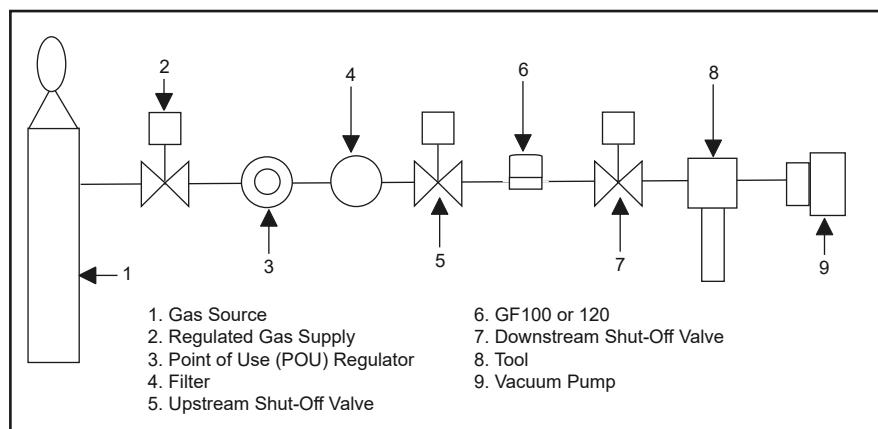

Figure 2-1 Typical Gas Supply Arrangement with Non-PTI MFC
Typical gas supply arrangements are shown in Figures 2-1 and 2-2. GF are often arranged inside a gas panel. Configure standard configurations ("SHs") or "blanks" for a variety of pure gases and mixtures. As a result, MultiFlo technology enables the user to reduce unique inventory requirements.
For additional safety, it is recommended to close the two valves between the charged gas line and the GF100/GF120xHT/GF101 Series to be installed. See Figures 2-1 and 2-2 for more details.
2. Refer to Figure 2-1. Open the upstream shut-off valve (5) and close the downstream shut-off valve (7). This eliminates a pressure drop across the GF100/GF120xHT/GF101 Series and subsequent leakage from the PID control valve inside the GF100/GF120xHT/GF101 Series.
4. Refer to Figure 2-1. Close the upstream shut-off valve (5) to prevent any pressure effects from the regulator (3).